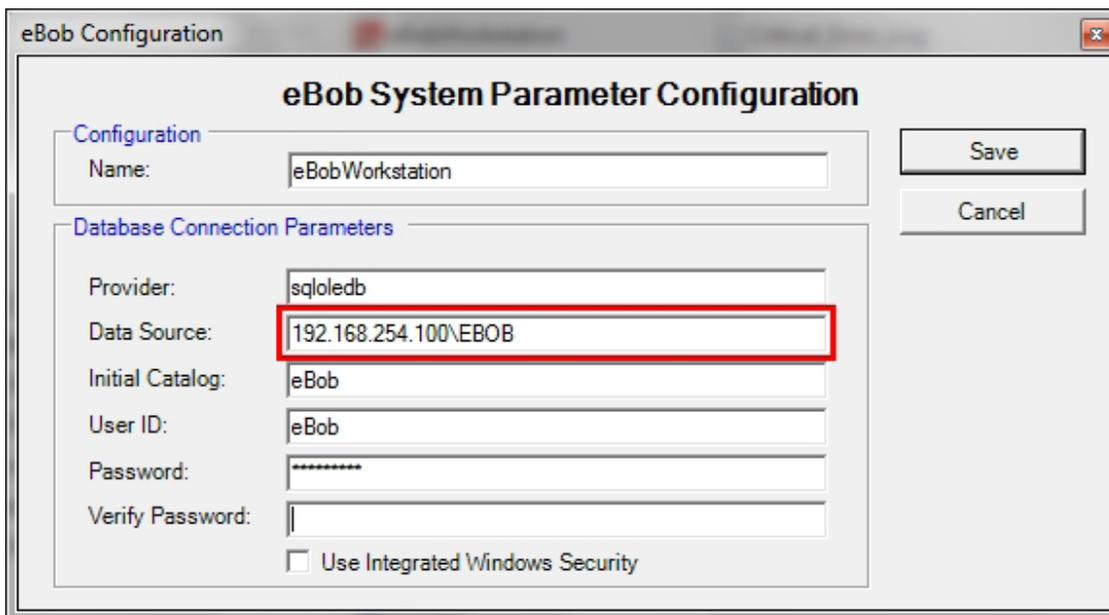

Figure 50
2. Open up BinInventory Security Administrator on a PC that is NOT hosting the database and note the contents of the Data Source field. See Figure 50. This may be needed to re-enter into BinInventory after the upgrade.